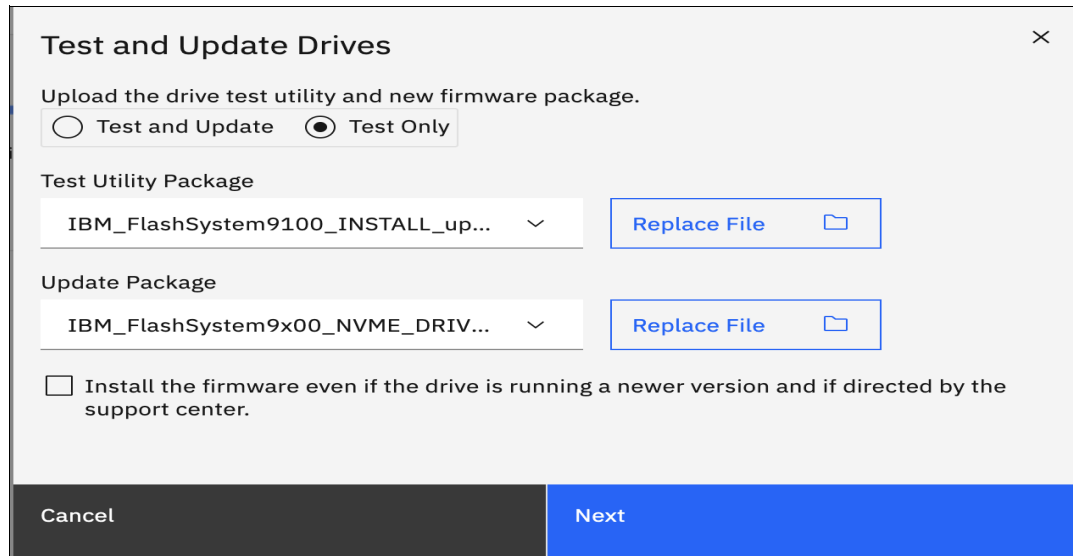

Figure 10-7 Drive firmware upgrade
2. As shown in Figure 10-7, in the Upgrade Package text box, browse to the drive firmware package you downloaded as described in “Obtaining the software packages” on page 457.